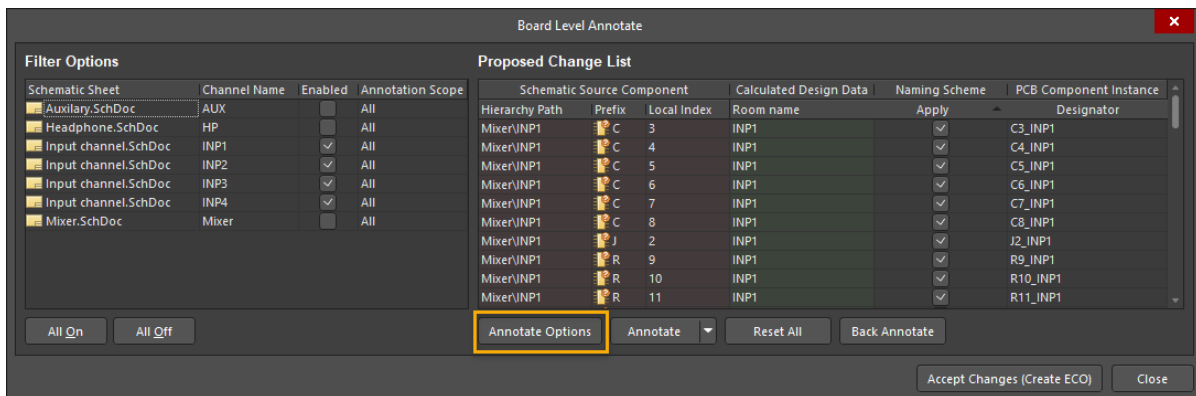

Figure 2. Board Level Annotate dialog
4. Open the *Board Level Annotate* dialog using the menus: **Tools » Annotation » Board Level Annotate...** as shown in Figure 2